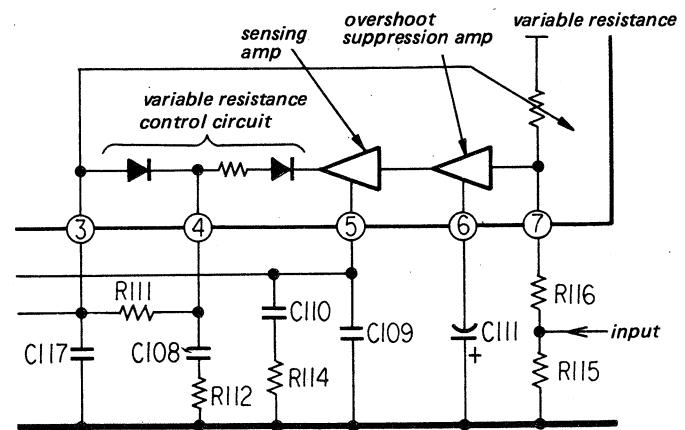

Fig. 8 High-Level Stage Control Circuit
1) High-Level Stage (Refer to Fig. 8)
The control circuit is shown in Fig. 8. The values of C108 and C117 are half of that of Dolby B-type. Also, both attack time and recovery time take half that of Dolby B-type.